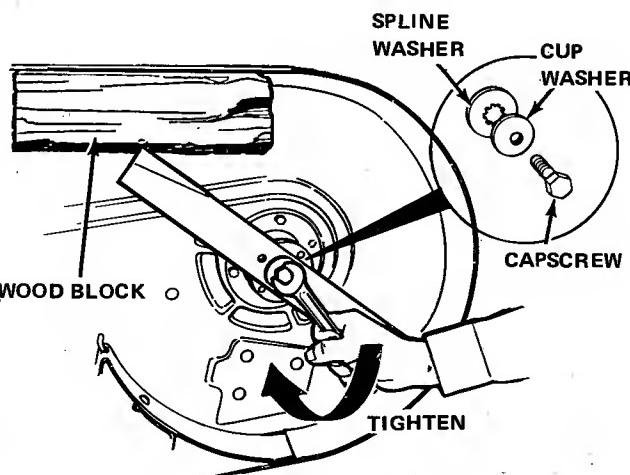

Figure 24. Check, Sharpen, and Balance Mower Blades (Yearly Care or as Needed)
5. Check, sharpen and balance the mower blades. (See figure 24).
3. Mower cut is rough looking.	A. Engine speed too slow. Set for three-fourths to full speed. B. Tractor ground speed too fast. Use lower gear. C. Blades dull and require sharpening. See figure 24. D. Mower drive belt slipping. Belt oily or worn. Clean or replace belt as necessary. Readjust belt tension.
5. Excessive mower vibration.	A. Blade mounting screws are loose. Torque to 50 Ft. Lbs. (68 N m). B. Mower blades, arbors, or pulleys are bent. Check and replace as necessary. C. Mower blades are out of balance. Remove, sharpen, and balance blades (see figure 24).